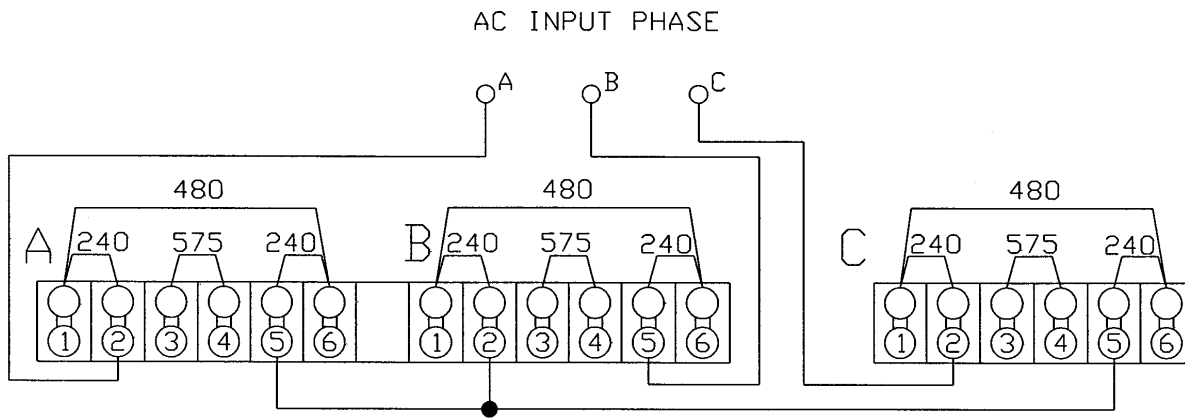

FIGURE 11.1.1 A.C. VOLTAGE SELECTOR BLOCKS (240/480/575V)
If the charger is to be operated on a different rated input voltage than the ordered value, follow the voltage changeover instructions described below (Refer to Figures 11.1.1 or 11.1.2).
- Locate the Terminal Block with Jumpers and the label describing the various voltage/jumper configurations. (Refer to Figures 11.1.1 or 11.1.2). The Terminal Block with Jumpers is located on the Ferro-resonant Transformer.